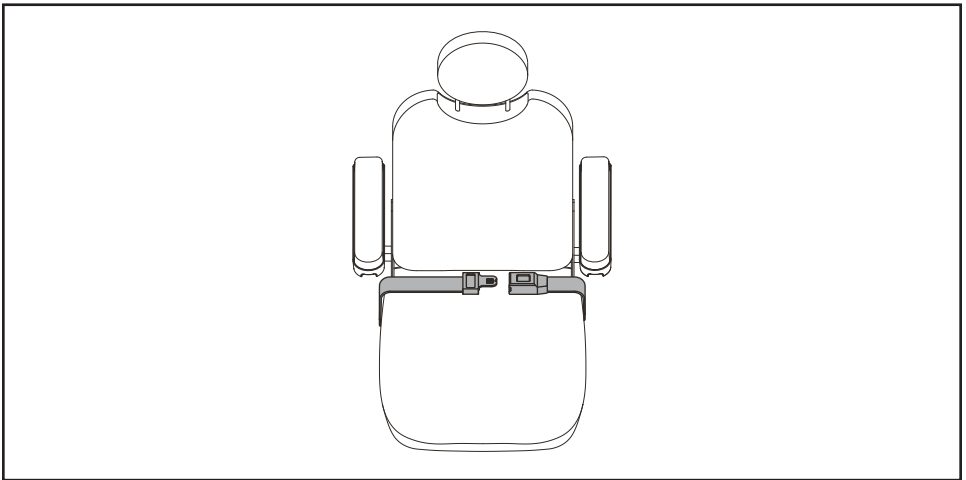

Figure 16. Positioning Belt Adjustment
Your power chair may be equipped with a positioning belt that can be adjusted for operator comfort. **See figure 16.** The positioning belt is designed to support the operator so that he/she does not slide down or forward in the seat. The positioning belt is not designed for use as a restraining device.
1. Once seated, insert the metal tab on one side of the belt into the plastic housing on the opposite side until you hear a click. **See figure 16.**